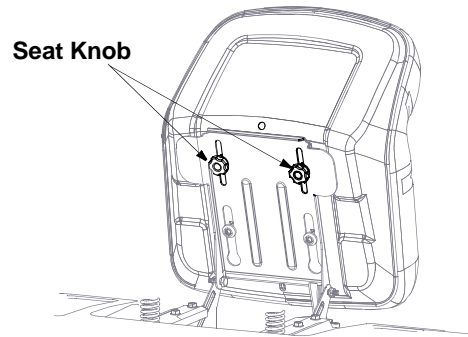

Figure 7
1. Flip the seat up as shown in Figure 7.
2. Loosen the two seat adjustment knobs located under the seat. See Figure 7.